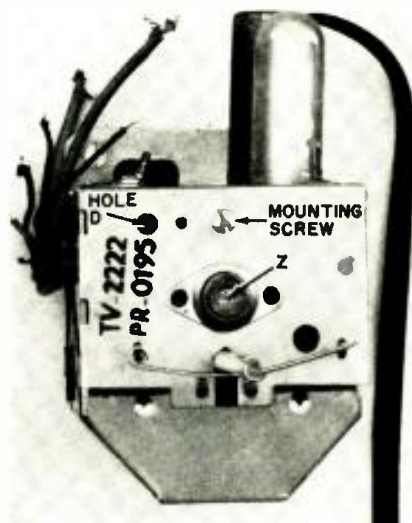

Fig. 2. Turret tuner with fine-tuning metal plate and rotating cam removed.
then check off each as it is completed. The first operation involves the TV tuner itself. In this type, one of the plates for the variable, fine-tuning capacitor is the button *Z* in Fig. 2. This is visible because the rest of the tuning capacitor has been removed, which we are about to do. This other plate is a rectangular metal section normally held in place by the mounting screw in Fig. 2 so that the former is spaced away from button *Z*. Tuning results when the dielectric between the plates, which is mounted on the fine-tuning shaft, is rotated. Here we go:
4. Using a punch or other suitable tool, emboss stud *D*. This locating stud should project so that it will engage in hole *D* of Fig. 2 when you later mount the circuit plate in position. If the plate is then bent along the lines shown in Fig. 3A so that it will look like Fig. 3B, everything should fall in place later.